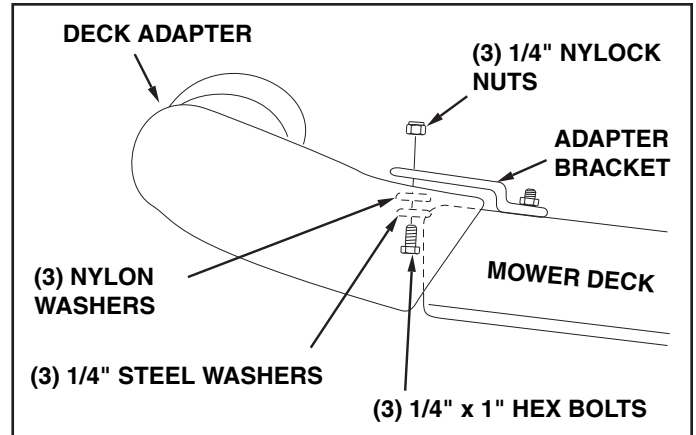

FIGURE 33
8. With deck adapter positioned correctly over the discharge opening, use the adapter bracket as a template and drill three 9/32" diameter holes in the top of the deck adapter. See figure 33.
9. Bolt deck adapter to bracket using three 1/4" x 1" bolts, nylon washers, 1/4" flat washers and 1/4" nylock nuts. Nylon washers should be against the inside of the deck adapter. See figure 33.